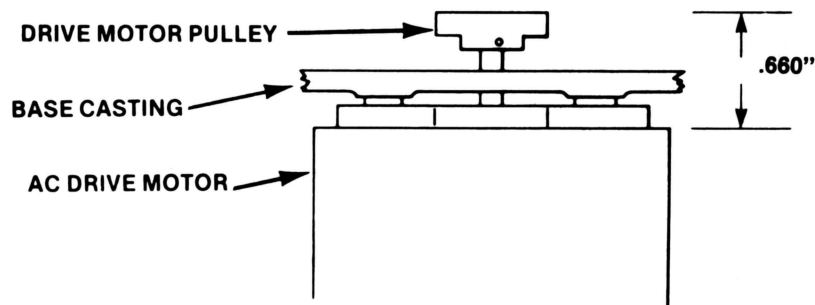

FIGURE 8a. DRIVE MOTOR PULLEY ADJUSTMENT
6. Install the drive motor pulley on the drive motor shaft so that there is .660 inch clearance between the top edge of the pulley and the drive motor face (refer to Fig. 8a). Insure that one of the set screws is located on the flat side of the drive motor shaft. Tighten the screws.